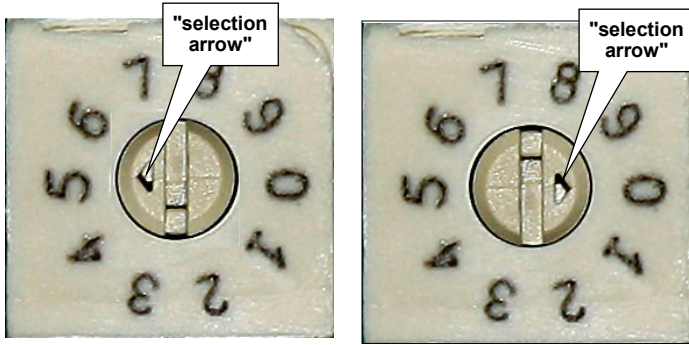

Fig. 5. Example: The above Expander Group dials are set to "50"
**IMPORTANT:** The small "selection arrow" on each dial must be pointing directly to the desired Group value. In Fig. 5 (below), the Group value is set to "50". Use a small flat-head screwdriver to turn the dials and make the selections. *Be sure to orient the Gateway as shown above with the **RESET***